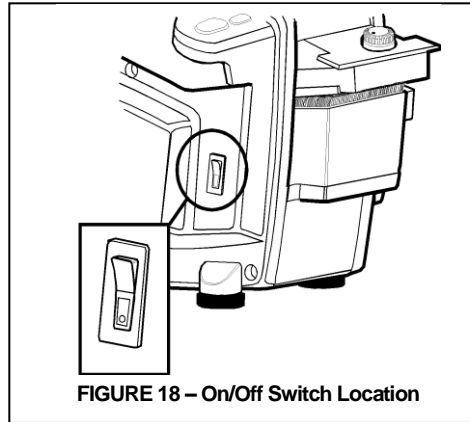

FIGURE 18 – On/Off Switch Location
1. Turn the dispenser OFF and UNPLUG it. See *Figure 18*.